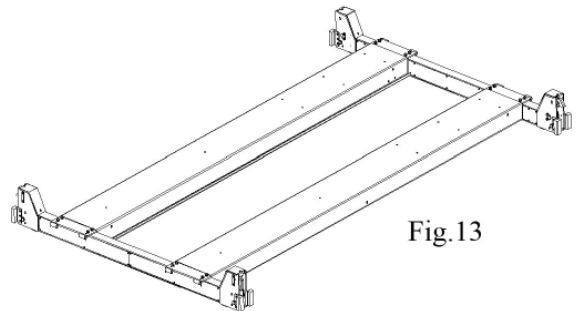

Fig.13
- Place the front and rear transverse beams on each ends of runways. The runways and transverse beams should be laid out as shown in figure 13. Make sure the